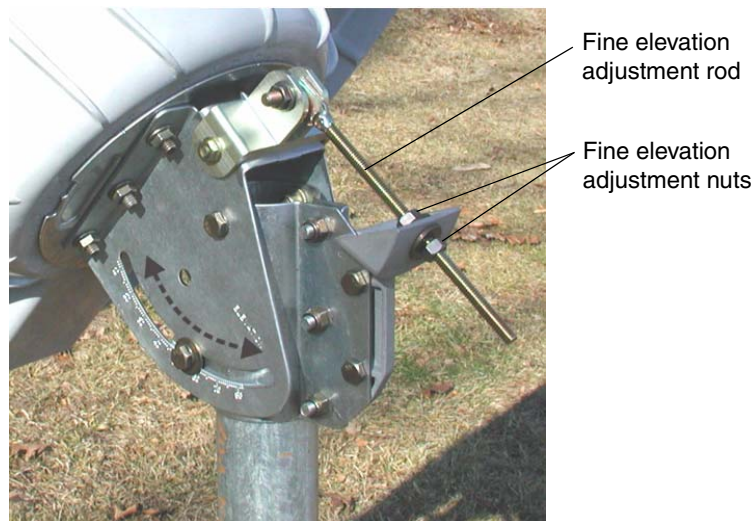

Figure 50: Fine elevation adjustment
The fine elevation adjustment rod (shown in Figure 50) allows you to make fine adjustments of the antenna elevation. Where subsequent instructions call for fine adjustment of the antenna elevation, fine-tune the elevation setting as follows:
1. Make sure the two elevation lockdown bolts are loose enough to allow the reflector to move as indicated by the arrow in Figure 50.
2. While watching the signal strength display, adjust the fine elevation adjustment nuts (Figure 50) to achieve maximum signal strength: